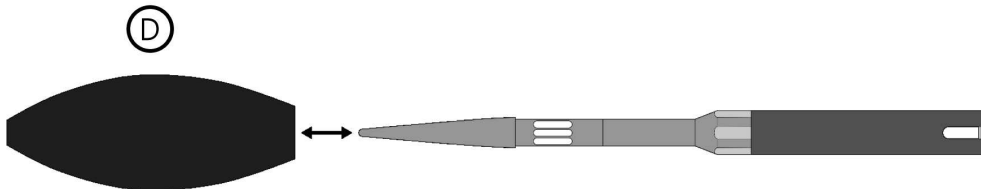

Figure 3.5: Weather protector and windscreen
Next, prepare the weather protection for the assembly. First remove the **Windscreen (D)** (figure 3.5).